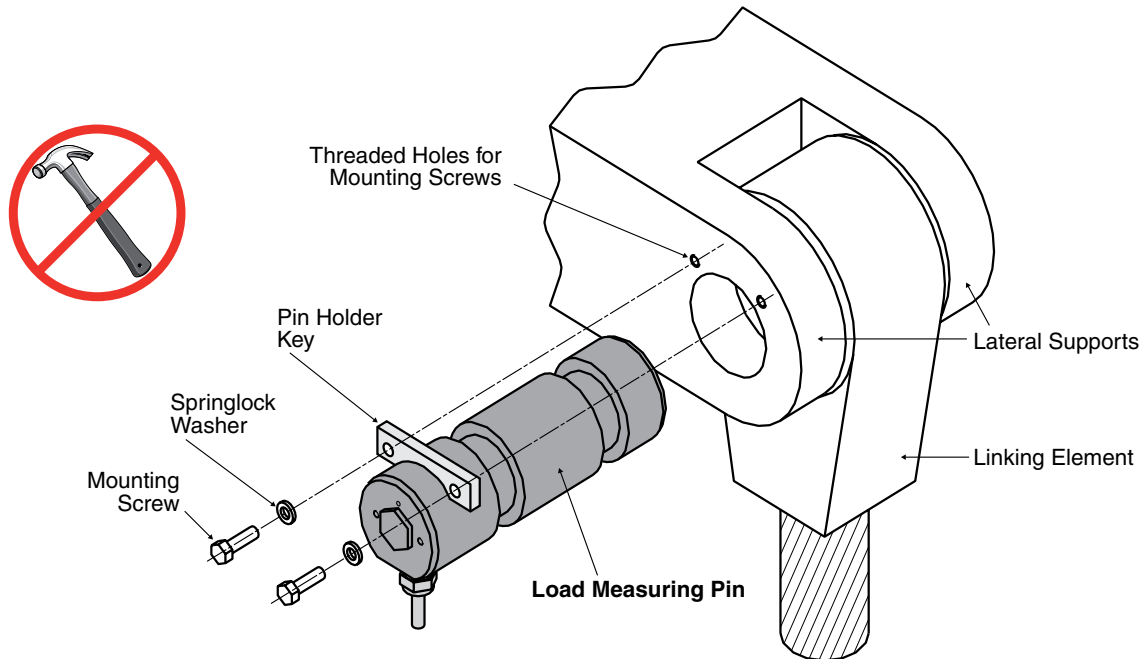

Fig.2–3 Positioning of the load measuring pin
- Position the load measuring pin facing the bores in which it will be seated (see *Fig.2–3*). Turn it so that the mortise for receiving the pin holder key is facing upward and perpendicular to the applied force.
- Manually slide the load measuring pin into its seat (see *Fig.2–3*), until the mortise for receiving the pin holder key reaches the lateral support. This inserting of the load measuring pin should be done without the use of any tool. If it is impossible to slide the pin in, check the alignment (concentricity and axiality) of the elements and machine again, if necessary.
- Place the two fastening screws, fitted with their washers, into the holes of the pin holder key (see *Fig.2–3*), and screw them into the previously threaded holes, applying the screwing torque specified in *Fig.2.2*.
- Load measuring pins LB 218 - LB 221, LE 218 - LE 221, LU 218 - LU 221, LB 238 - LB 241, LE 318 - LE 321 and LE 518 - LE 521 are fitted with two extraction screw threads at each end (see *Fig.2–4* and *Fig.2–6*) which should be used to fix the extraction device. Use this thread to fix an extraction device (not provided by Magtrol, see *Fig.2–5*). We recommend fixing it on the same side as the stuffing gland (LB 210, LE 310 and LE 510 series pins with integrated cable) or the electric connector (LB 230, LE 210, LU 210, LE 310 and LE 510 series pin with connector) to avoid their damage if the pin is pulled out on the opposite end (see *Fig.2–4*).